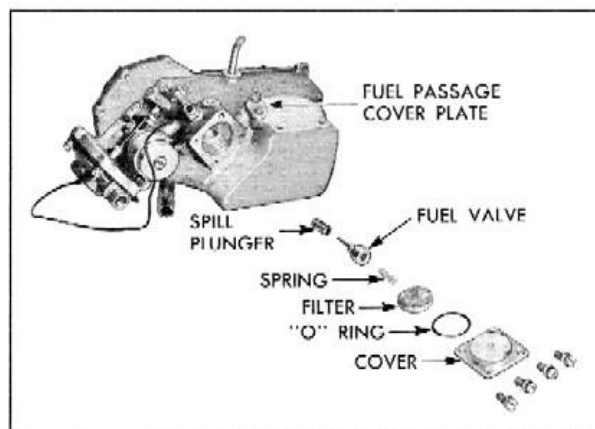

Fig. 19 Fuel Valve Components
4. Invert the fuel meter and remove the four screws and lockwashers securing the fuel valve cover. Remove the cover and "O" ring, then remove the filter, fuel valve and spring, and the spill plunger, Fig. 19. Be especially careful not to drop or lose the spill plunger as it is individually matched
5. Detach the fuel passage cover plate by removing the two attaching screws and lockwashers, Fig. 19.